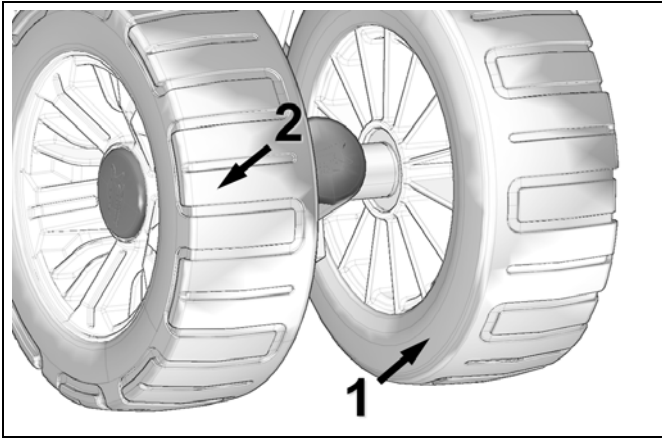

Figure 48
Verify wear on the urethane tires especially on the interior guidance strip (1) and between the tire profiles (2). The wheel must be replaced if the inner surface is worn out or the tire is cracked between the tire profiles. A wheel that is excessively worn will not offer enough support for track guidance. Refer to Figure 48.